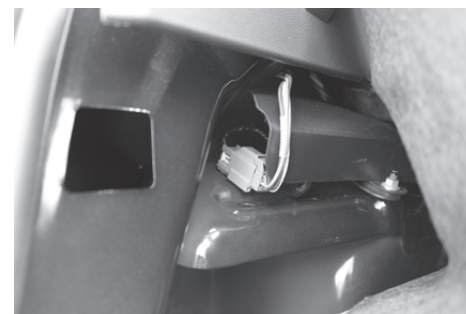

Figure 3
3. Pull back felt liner to reveal vehicle's taillight connectors shown in **Figure 3**. They will be similar to those found on RV harness.